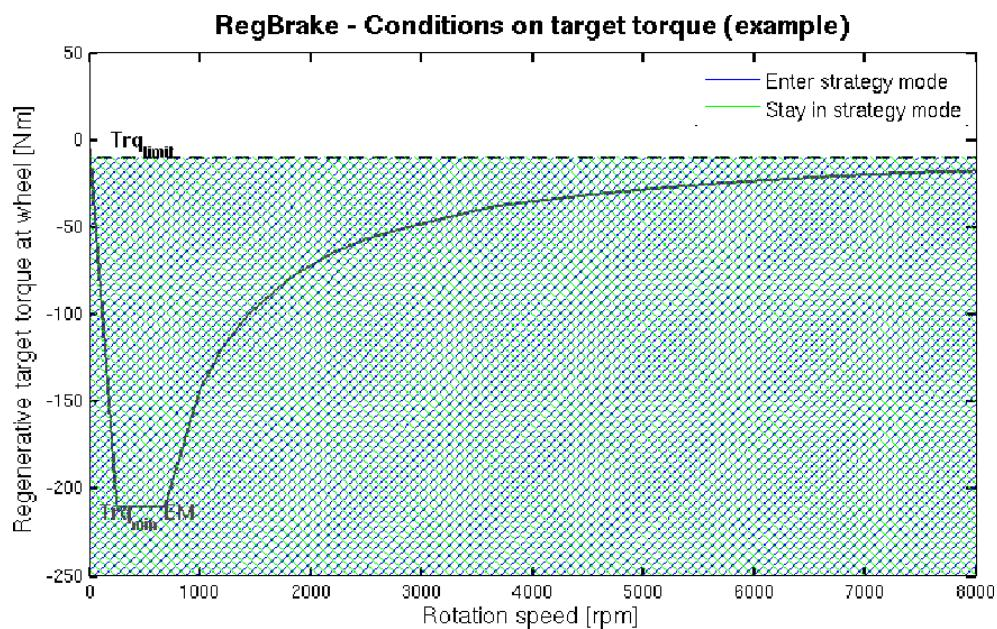
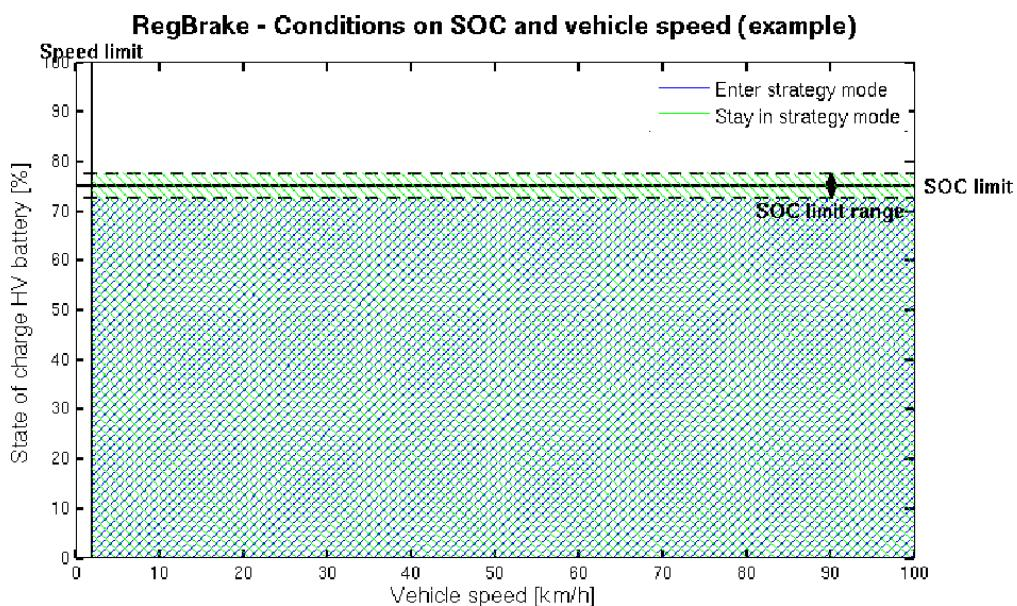

Figure 5.27: Powertrain - Conditions of target torque
Figure 5.28: Powertrain - Conditions of SOC and vehicle speed
- Regeneration** This tab provides the two most common operational strategy modes for electric vehicles: *regenerative braking* and *regenerative drag*. For both modes, the limits for initiating or deactivating the strategy must be defined. The meaning of these limits are shown in Figure 5.27 and Figure 5.28. The regenerative braking strategy is defined within the brake model (section '*Brake*', pg. 86).